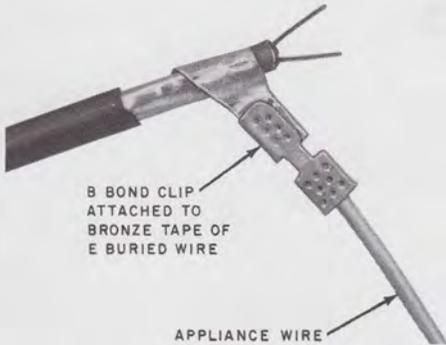

Fig. 26—Removal of Metallic Shield
7.04 Where the buried wire is 700 feet or less in length, grounding of the metallic shield at the cable terminal is omitted, unless special lightning protection is required (see 7.07). Cut off the metallic shield at the terminal location and wrap with two turns of vinyl tape to protect against sharp edges (Fig. 26).
8.02 E buried wire can be used with or fed from multiple wire where the multiple wire is exposed to power contact and fuseless station protection is used. E buried wire should be brought up a pole and terminated in a 101B2 wire terminal. The metallic shield should be cut back and taped as shown in Fig. 26. Connect the conductors of E buried wire to the conductors of the multiple wire with block wire. At the groundline the wire should be covered with an 8-foot length of No. 0 U cable guard. Fig. 29 shows a typical example of E buried wire being connected to a 105-type wire terminal.
9.02 At the junction with C rural wire, E buried wire can be brought up a pole and terminated in a 101B2 wire terminal. The metallic shield should be cut off and taped as shown in Fig. 26. Block wire should be used to bridle between the 101B2 wire terminal and the 107-type wire terminal on the C rural wire. At the groundline, the E buried wire should be covered with an 8-foot length of No. 0 U cable guard. A typical installation is shown in Fig. 30.
10.02 At the junction with open wire, E buried wire can be brought up a pole and terminated in a 101B2 wire terminal. The metallic shield should be cut off and taped as shown in Fig. 26. Block wire must be used between the protector and the open wire. At the groundline, the wire should be covered with an 8-foot length of No. 0 U cable guard. A typical installation is shown in Fig. 31.